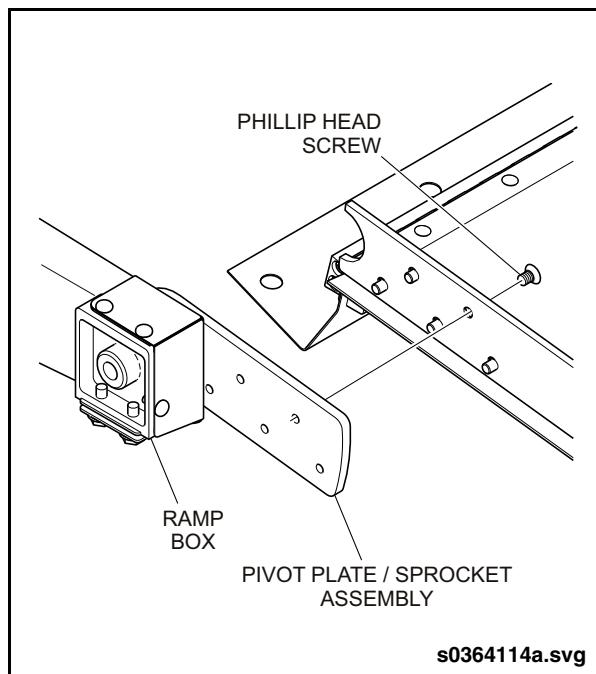

Fig. 20-6: Ramp Plate Removal
5. Support the ramp plate in a horizontal position and remove the five Phillips flat head screws on each side of the ramp plate that secure the pivot plate and sprocket to the ramp plate. See “Fig. 20-6: Ramp Plate Removal” on page 14.